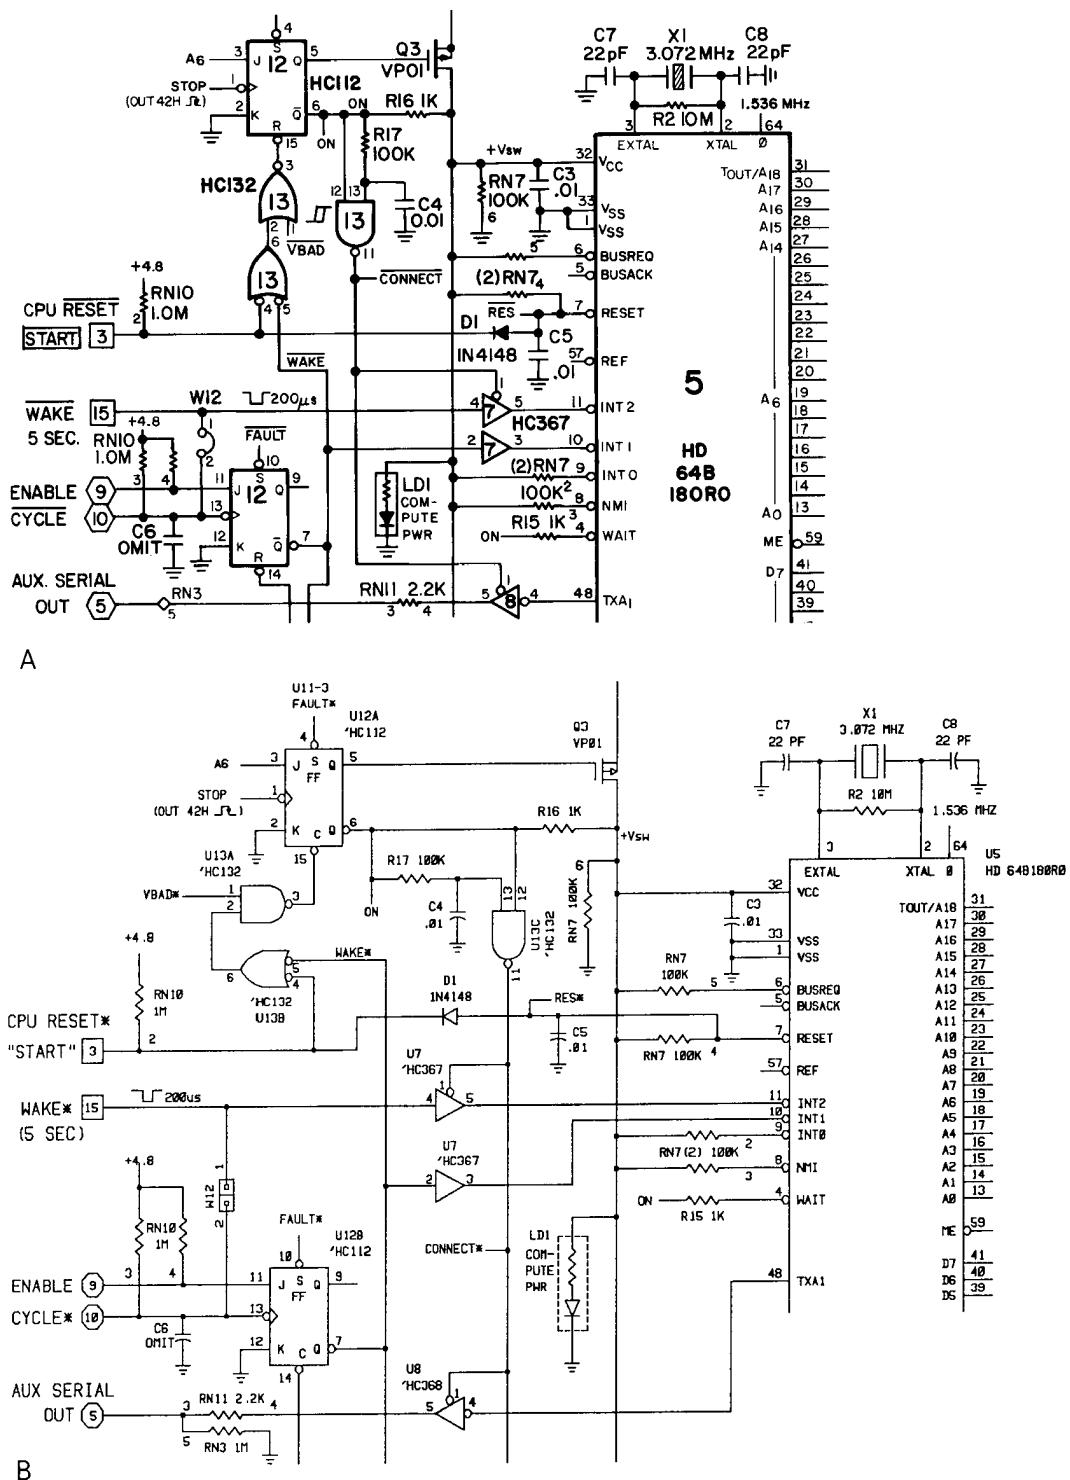

Figure 12.8. Portion of a complex schematic diagram from which the PC board in Figure 12.11 was produced.
- **Checking and simulation.** The output from the schematic capture consists of a set of drawings (Fig. 12.8) and a *netlist*, which is simply a list of every signal, telling every "node" (component pin) it is connected to.